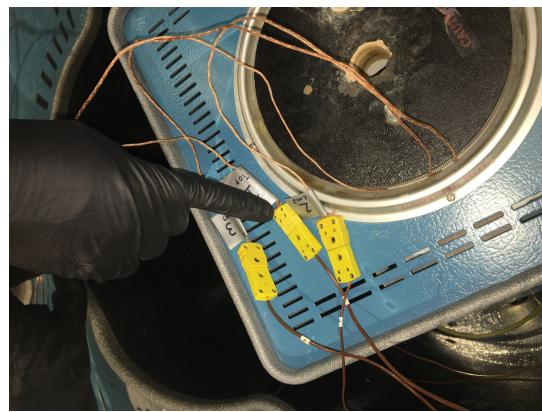

Figure 3: Thermocouple connections
8. Ensure the 4 furnace thermocouples are connected to their corresponding connectors inside the vessel and ensure that the wires are tucked down between the side of the furnace and the wall of the vessel and are out of the way (see Figure 3)